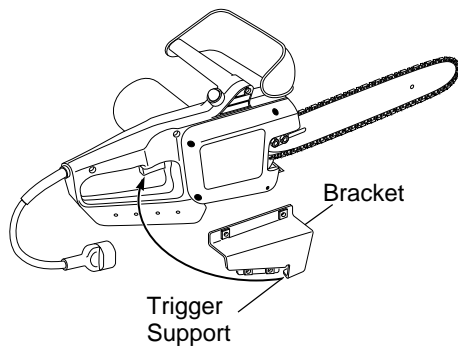

Figure 5 - Bracket with Trigger Support
1. Slip handle bracket over chain saw handle from the right side (see Figure 5). **Note:** The trigger must be depressed before the bracket will go onto the handle.